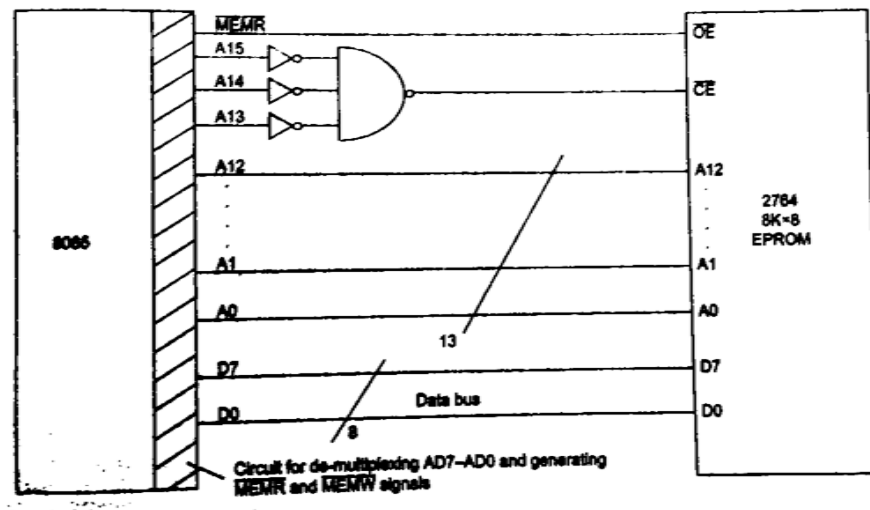

Fig. 3.2 Interfacing IC 2764 with the 8085
- Chip is enabled whenever the 8085 places an address allocated to EPROM chip in the address bus. This is shown in Fig. 3.2